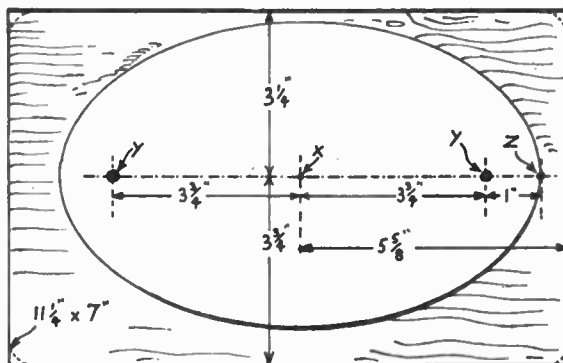

Fig. 2—How the front is marked out
The front, $11\frac{1}{4}$ ins. by 7ins. is shown in Fig. 2. The oval cutout accommodates both the speaker and tuning control, being entirely covered by the silk which is stretched over the baffle secured to the front of the receiver chassis.
To obtain the oval outline for the cutout, a line is drawn horizontally, $3\frac{1}{4}$ in. from the top, as illustrated. The centre of this line, marked (X) in Fig. 2, is $5\frac{1}{8}$ in. from each end of the panel. A dot is made at (X) and $3\frac{1}{4}$ in. is measured in each direction, to find the points (Y). A drawing pin is half pushed in at both these positions.
The speaker, baffle, silk, and tuning control are all permanently fitted to the receiver, and do not require removing when the set is inserted in the cabinet. The chassis is lifted a trifle by resting on strips of wood, so that the tuning condenser spindle comes centrally in the oval cut-out, occupying the position of the dot (X) in Fig. 2.